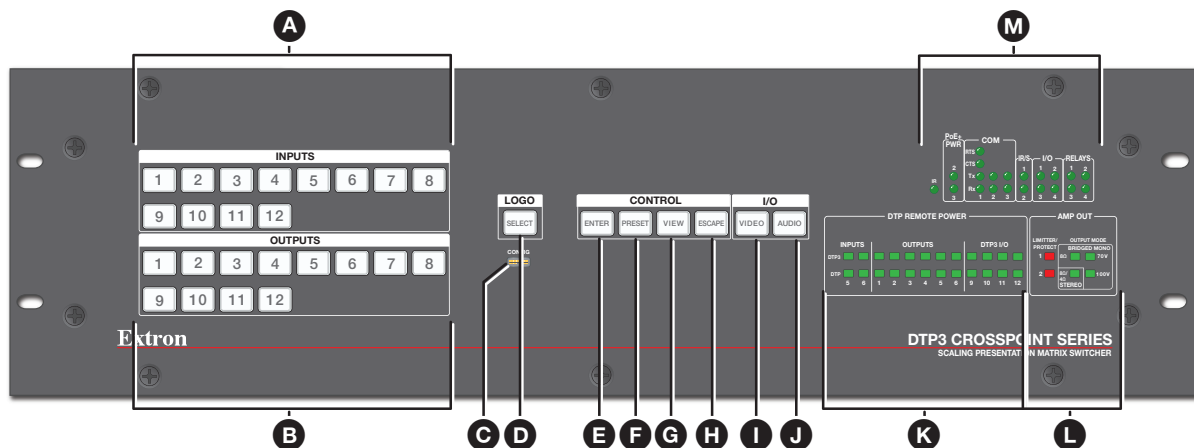
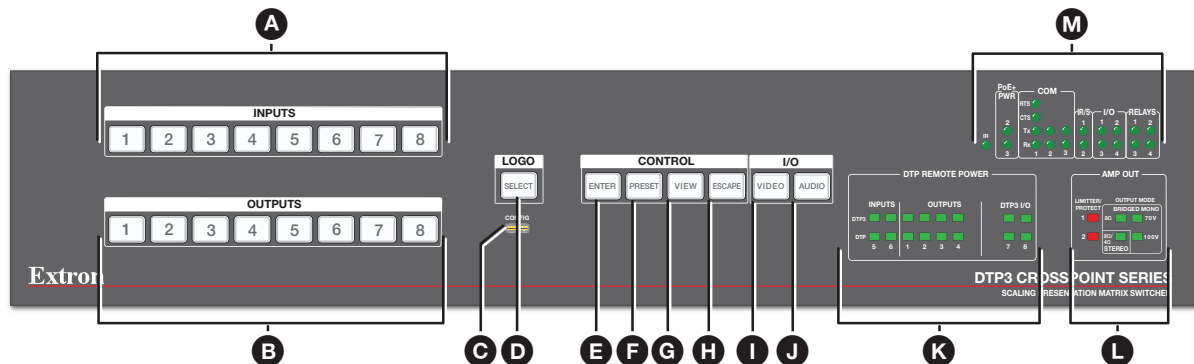

Figure 17. DTP3 CrossPoint 884 IPCP A Front Panel
Figure 18. DTP3 CrossPoint 662 IPCP A SL Front Panel
- A Input buttons** (see figure 17 and figure 18 on page 25) — The input buttons have one primary function and five secondary functions.
- E Enter button** (see figure 17 and figure 18 on page 25) — The **ENTER** button has two primary functions:
- K DTP3 Remote Power LEDs** (see figure 17 and figure 18 on page 25) — These LEDs indicate the DTP3 remote power select status of the DTP3 inputs and outputs.